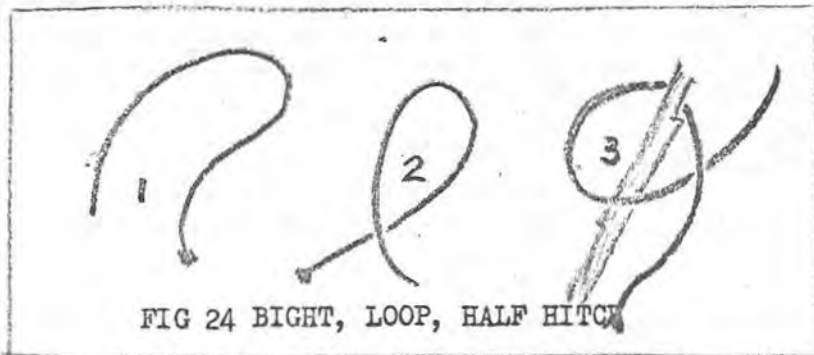

FIG 24 BIGHT, LOOP, HALF HITCH
- (1) Bight: (Figure 24(1)) - A simple bend of rope in which the rope does not cross itself.
- (2) Loop: (Figure 24 (2)) - A bend of rope that crosses itself.
- (3) Half-Hitch: (Figure 24 (3)) - A loop that runs around an object in such a manner as to lock itself.
- (4) The running end of the rope is the free end of the rope.
- (5) The standing part of the rope is the static part.
- (6) The lay of the rope is the same as the twist of the rope.